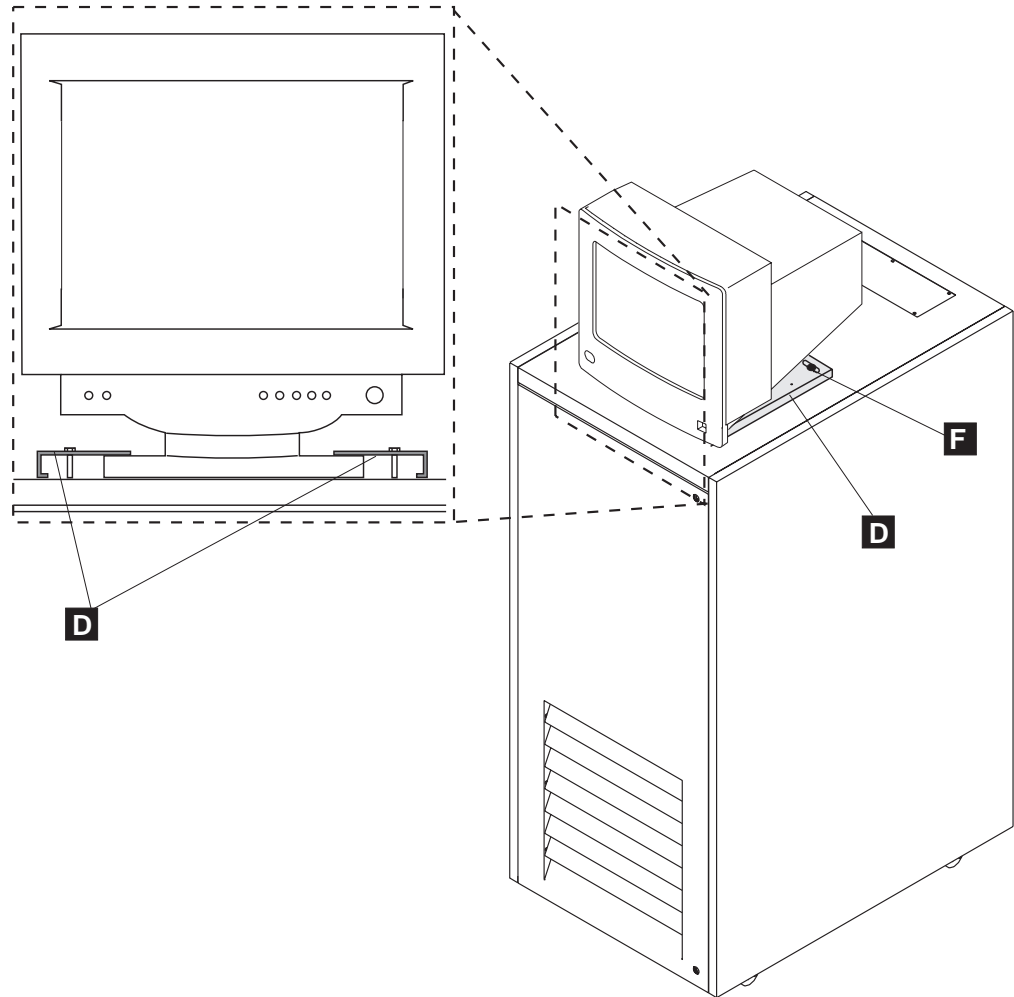

Figure 1-30. Display Installation on Top of 29U Rack
- b. ____ Slide the pedestal display under the safety retainers (see Figure 1-30 on page 1-25).